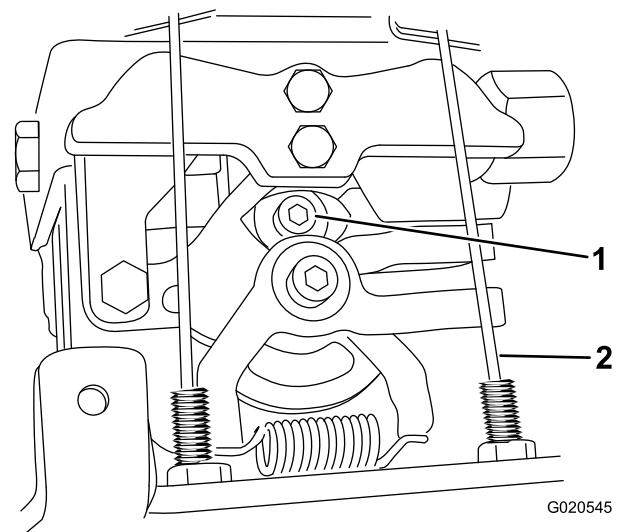

Figure 28
6. Loosen the lock down screw (Figure 28) until the return arm can be rotated.